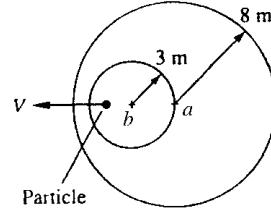

Fig. P9.118
**9.118** A particle moving at uniform velocity in sea-level standard air creates the two disturbance spheres shown in Fig. P9.118. Compute the particle velocity and Mach number.